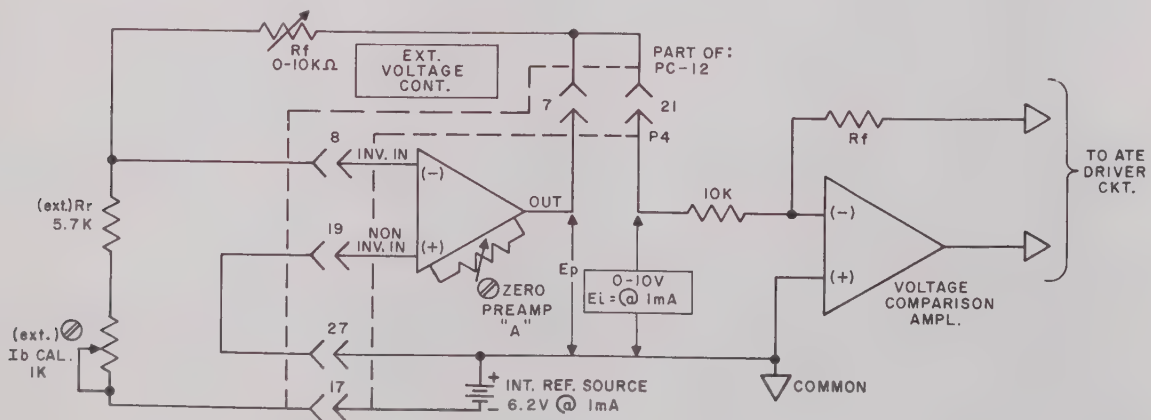

FIG. 3-7 TWO-TERMINAL RESISTANCE PROGRAMMING OF THE VOLTAGE CHANNEL, USING PREAMP "A" AND THE INTERNAL REFERENCE SOURCE.
3-46 As mentioned previously (refer to PAR.'s 3-39, 3-40) a wide variety of external programming sources can be used to control the ATE voltage channel. By means of one or both of the ATE's uncommitted preamplifiers, the external control potential can be amplified, inverted and/or summed with an internal d-c signal. Alternately, the preamplifier can be used to perform remote, two-terminal resistance programming of the ATE voltage channel. As seen in FIG. 3-7, the INT. REFERENCE SOURCE (6.2V @ 1 mA) is connected to PREAMP "A" and the external input/feedback components are calculated to produce the required 0 to 10 volts control signal from the preamplifier output.
- 3-47 (Refer to FIG. 3-7). The preamplifier functions here in the inverting configuration, producing its output voltage (E_p , which is made equal to the required control voltage " E_i ") according to the equation: